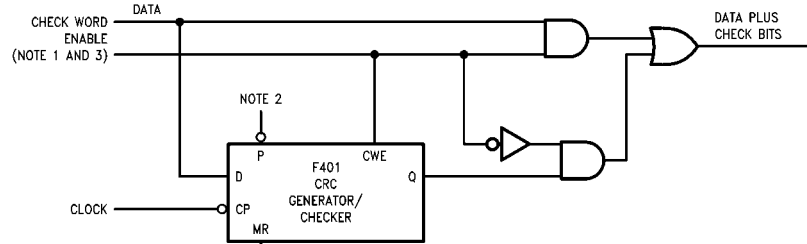

FIGURE 2. Check Word Generation
transition of the Clock input ( $\overline{CP}$ ). This data is gated with the most significant output (Q) of the register, and controls the Exclusive OR gates Figure 1. The Check Word Enable (CWE) must be held HIGH while the data is being entered. After the last data bit is entered, the CWE is brought LOW and the check bits are shifted out of the register and appended to the data bits using external gating Figure 2.